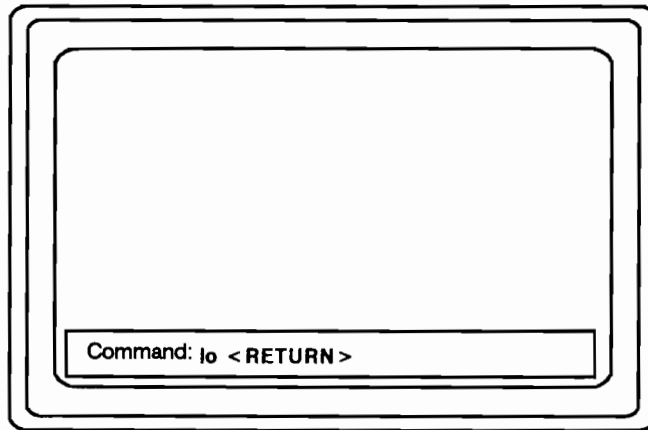

Figure 3-15. Logging Out
1. Log out of the system by pressing <CMD> and entering the `lo` command as shown in Figure 3-15.